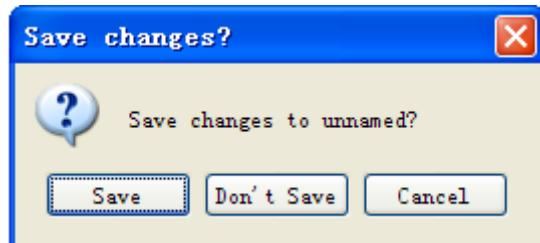

Figure 7-36 Generate SOPC
23. Click the Generate button, which will pop up a window, as shown in **Figure 7-36**. Click Save, which bring up the window in **Figure 7-37**. Input the name, **DE0\_NANO\_SOPC**, and click the save button. The compilation will automatically start. If there are no errors in the generation, the window will show a message of success, as shown in **Figure 7-38**.